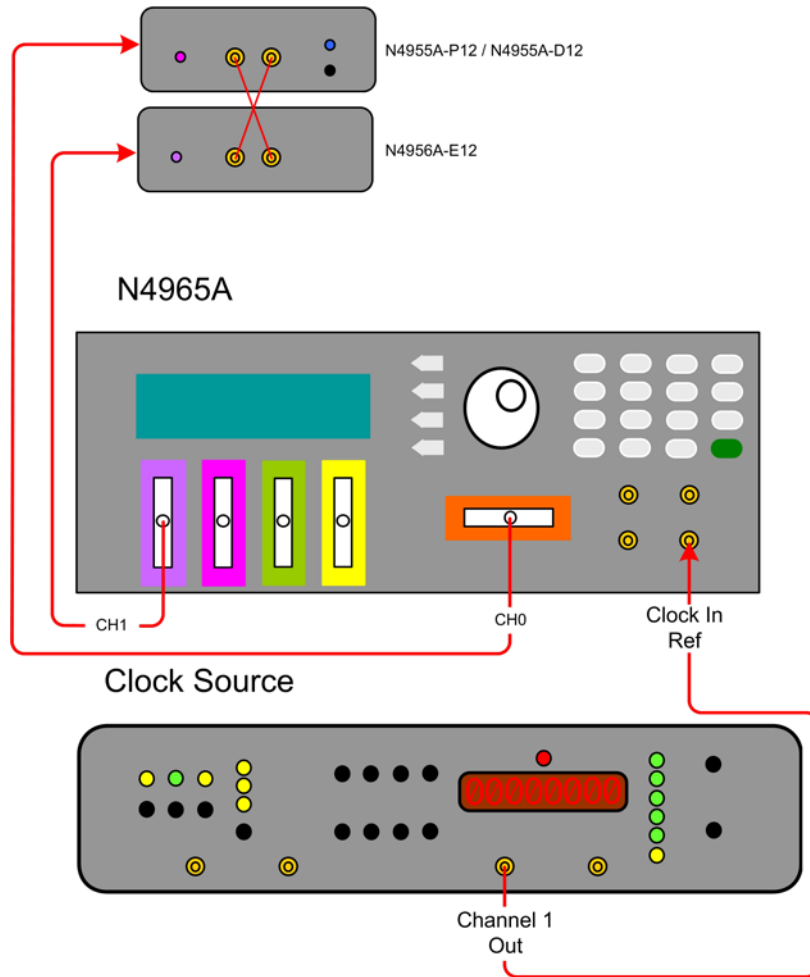

Figure 6. N4956A-E12 installation setup
1. Connect the N4965A controller to a clock source as shown in Figure 6.